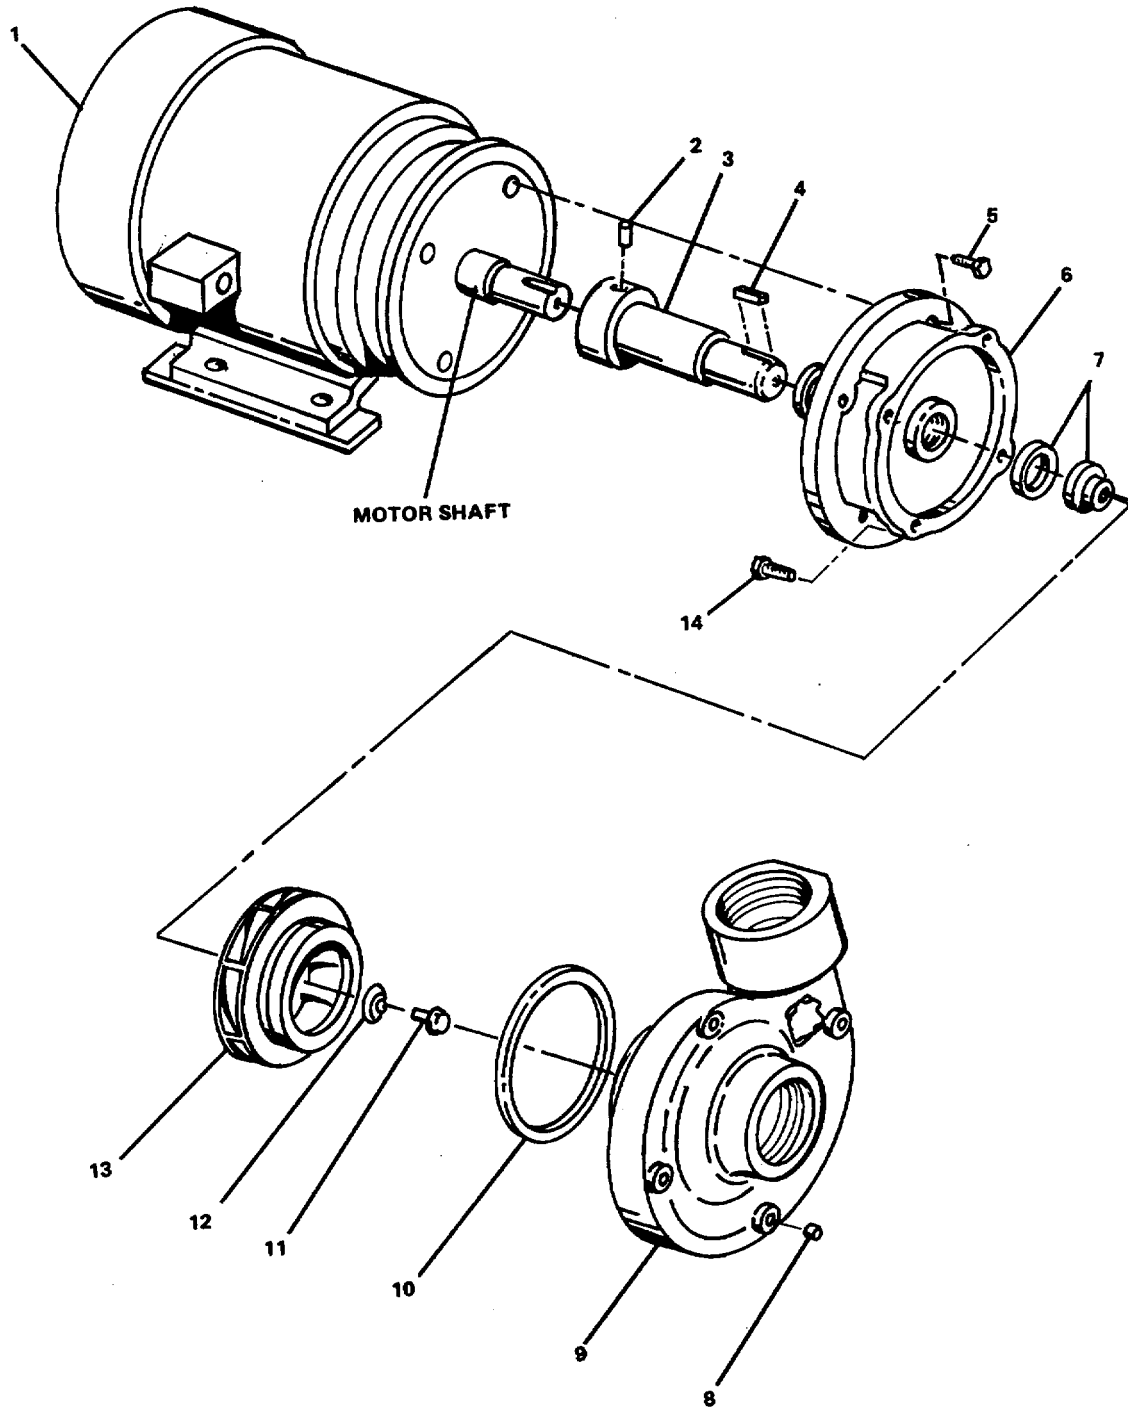

FIGURE 3-98. Rotary Pump (Reduction Gear Cooling Water).
(5) Install expansion plug (15) on cover (13).
(6) Position cover (13) on casing with roll pin (12) and mounting screwholes aligned.
(7) Secure cover to casing with eight hex head capscrews (14).
(8) Install sleeve bearing (7).
(9) Install snap ring (5).
(10) Install shaft seal assembly (4) and performed packing (3).
(11) Position gland (2) on casing with mounting screwholes aligned.
(12) Secure gland to casing with four hex head capscrews (1).
(13) Rotary pump replaced-as specified in paragraph 3-112 .
**3-114. Repair Centrifugal Pump Unit (Reduction Gear Cooling Water). (Figure 3-98)**